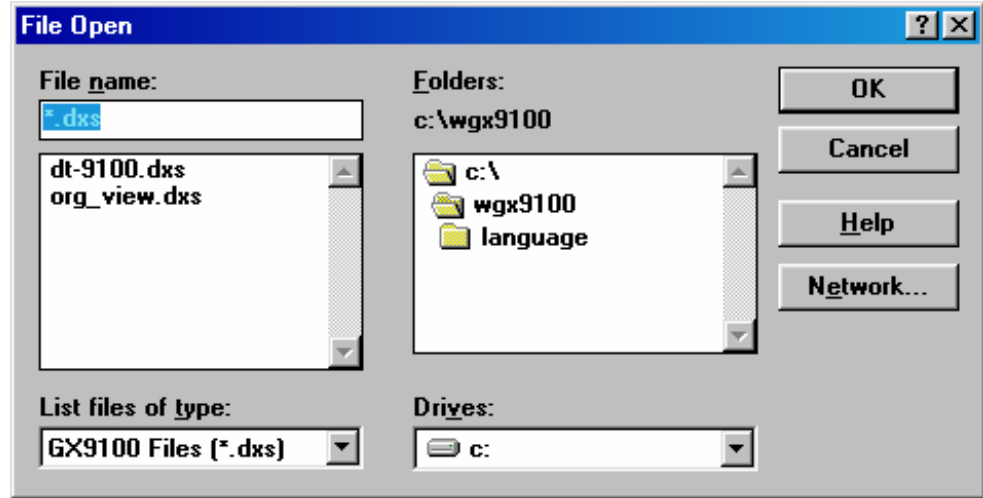

Figure 8-7: File Open Dialog Box
1. On the File menu, click Open. The File Open dialog box appears (Figure 8-7).